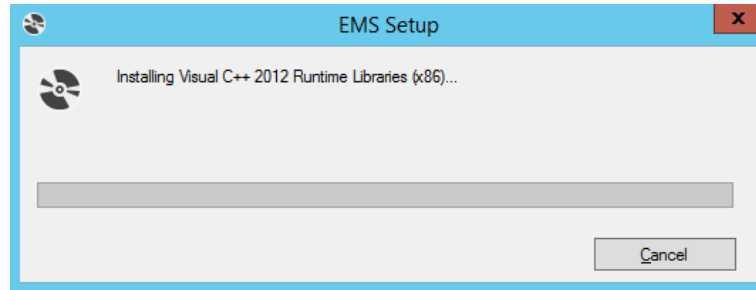
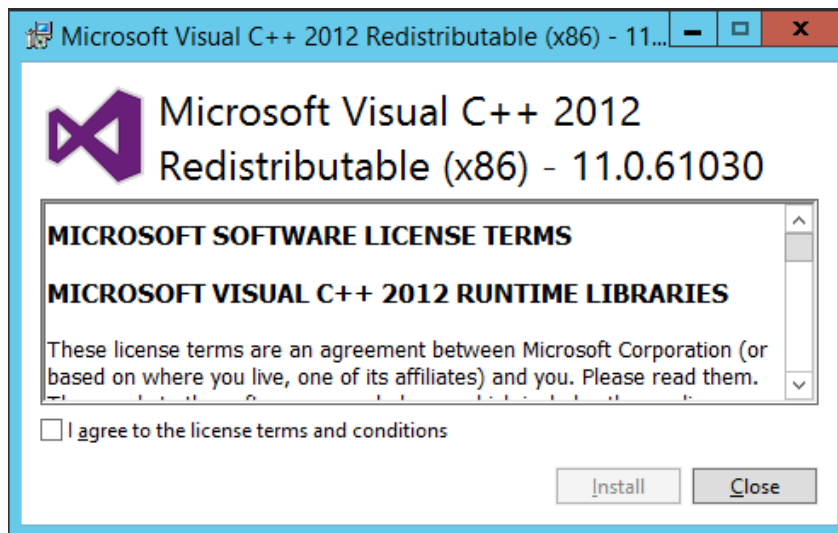

Figure 23
Figure 24
- The following windows are displayed. See Figure 23 and Figure 24 below: